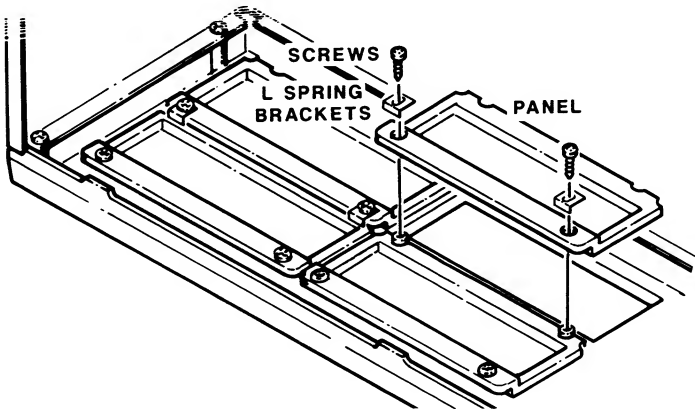

Figure 5-13. Removing the Front Panel Insert
15. Before you replace the cover, refer to Figure 5-13 and remove the screws and L spring brackets that secure the upper right panel insert. Remove the insert. Reinstall the screws and L spring brackets to secure the lower panel insert to the cover.